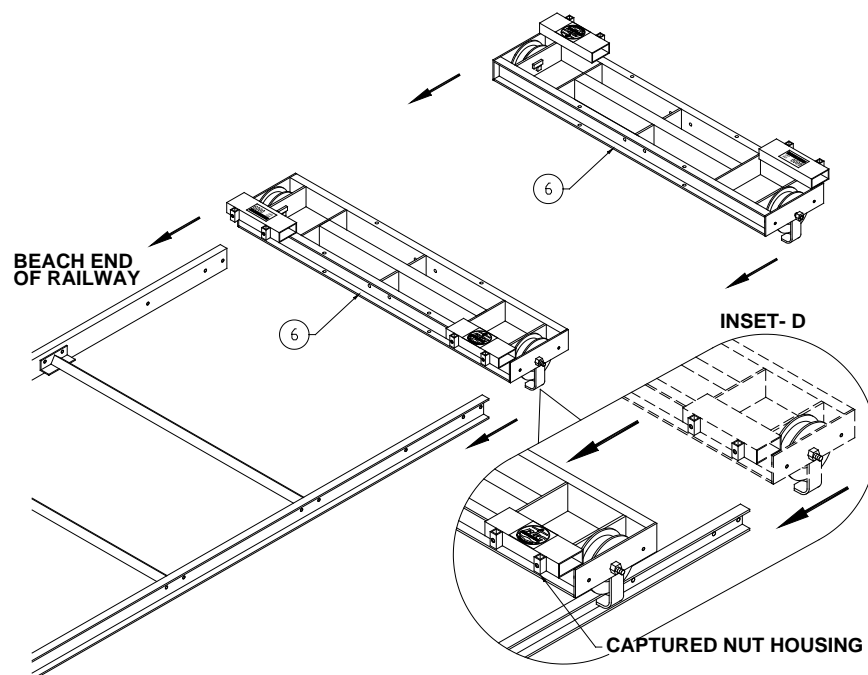

Figure 3-2.
6. Refer to **Figure 3-2**. Install the truck assemblies onto one of the preassembled track sections described above, with captured nut housings facing away from each other as shown in **Inset D**.